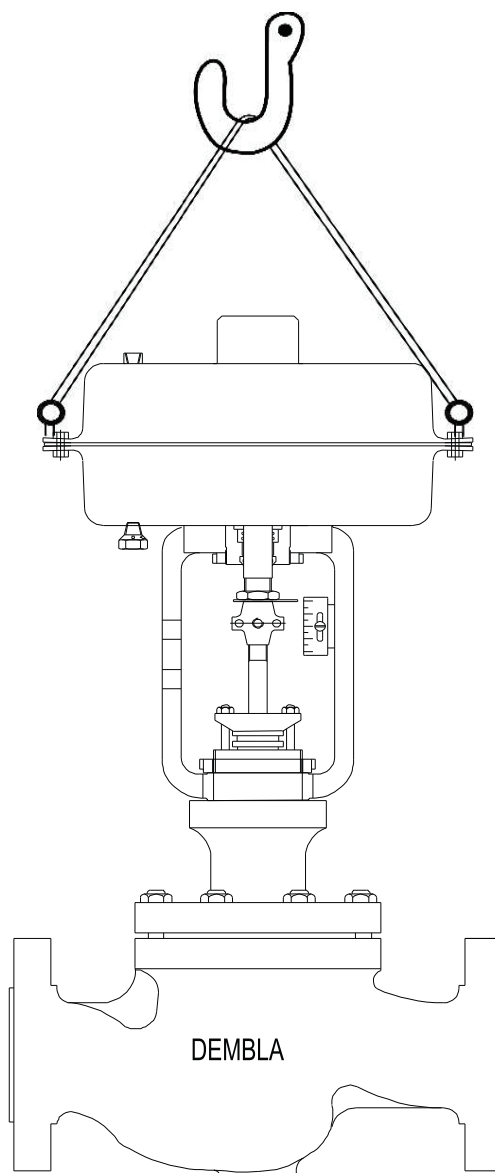

Fig. 1
- Lift the Valve properly as shown in figure 1
Valve should be lifted by using chain (Take care that Valve should not damage while handing) or bearer cables as shown in figure 1.